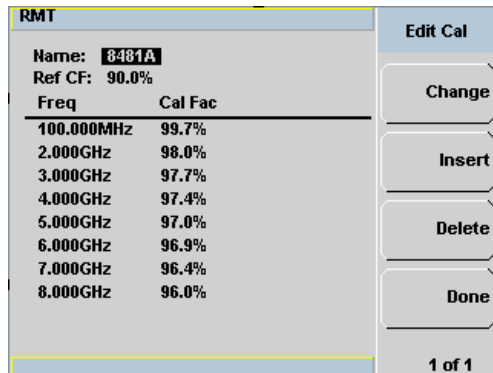

Figure 8-142 “Edit Cal” display
- 2 Choose the table you want to edit using the  and  keys. Press **Edit Table** to display the **Edit Cal** screen as shown in Figure 8-142.